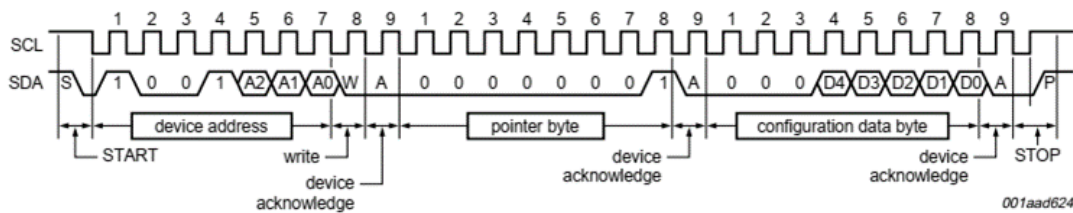

FIGURE 2.4 – Write configuration register.
3. Complete the *lm75a_writeConfigRegister()* function to write in configuration register by helping you figure with the Figure 2.4. Build the program.